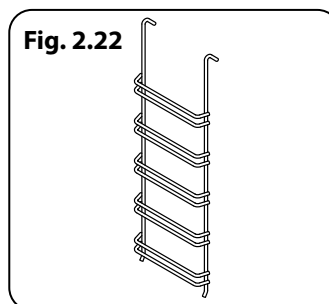

Fig. 2.22
- Four ladder shelf supports (**Fig. 2.22**)